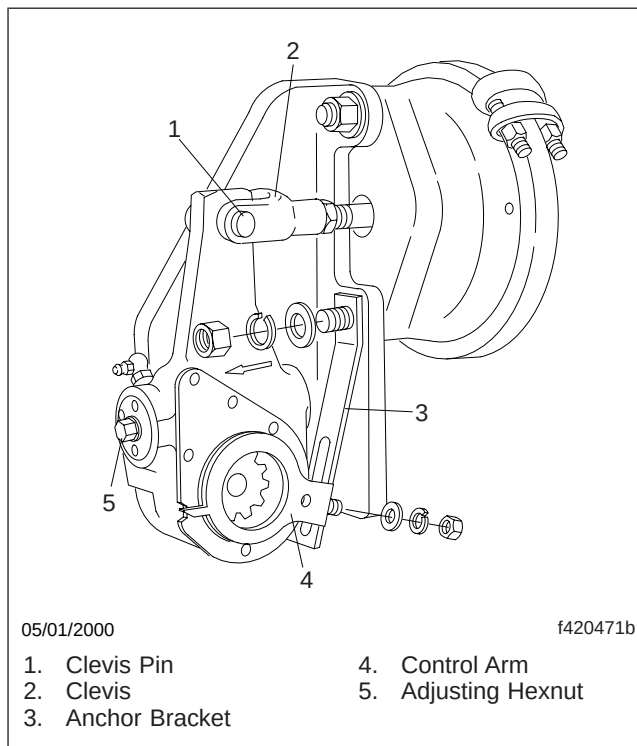

Fig. 1, Anchor Bracket Removal/Installation
3. Remove the anchor bracket fasteners and the anchor bracket. See Fig. 1.